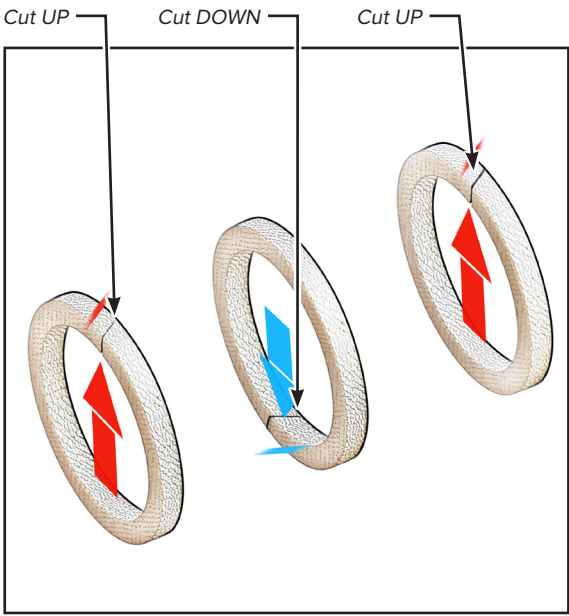

FIGURE 9
- 10. Wrap the first ring around the shaft and note the position of the joint (Figure 9).
- 13. Wrap the second ring around the shaft and offset the joint 180° from the position of the first ring (Figure 9). Push it into the packing gland using the packing retainer then slide packing retainer out of packing gland pocket.
- 14. Wrap the third ring around the shaft and offset the joint 180° from the second ring (Figure 9). Push it into the packing gland pocket using the packing retainer.